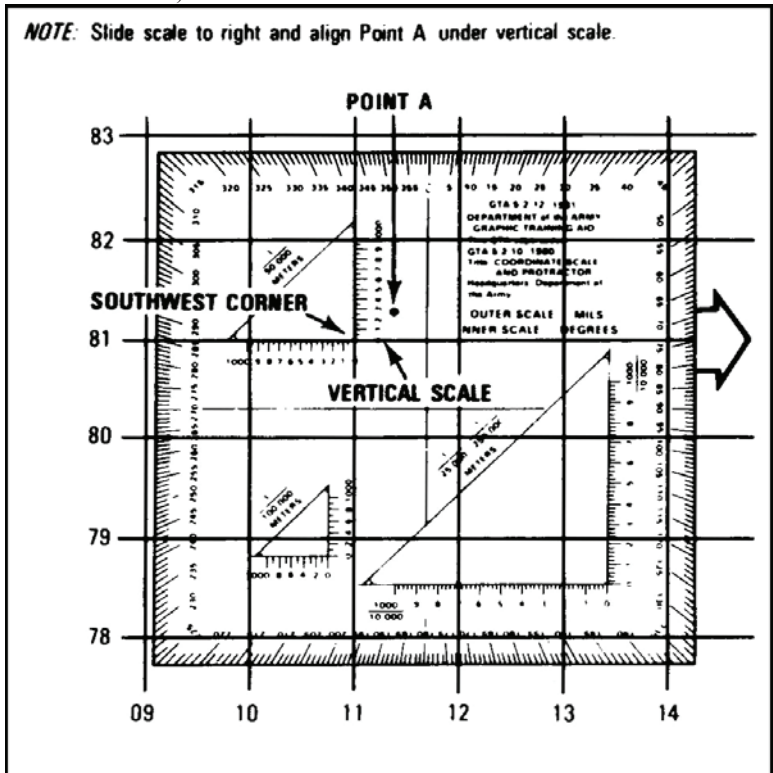

Figure 071-COM-1002-4. Placement of the Coordinate Scale.
(2) Check to see that the zeros of the coordinate scale are in the lower left-hand (southwest) corner of the grid square where Point A is located (Figure 071-COM-1002-4).
(3) Slide the scale to the right, keeping the bottom of the scale on the bottom grid line until Point A is under the vertical (right-hand) scale (Figures 071-COM-1002-5 and 071-COM-1002-6).